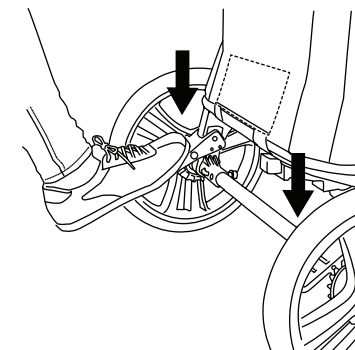

Fig. 13
- 13) • To engage brakes, apply light downward pressure to the brake lever located on each rear wheel. The stroller may require slight forward or rearward movement in order to line up the teeth on the brake with each wheel brake cluster (Fig. 13). **NOTE:** Check that the stroller will not move and that both brakes are properly applied.